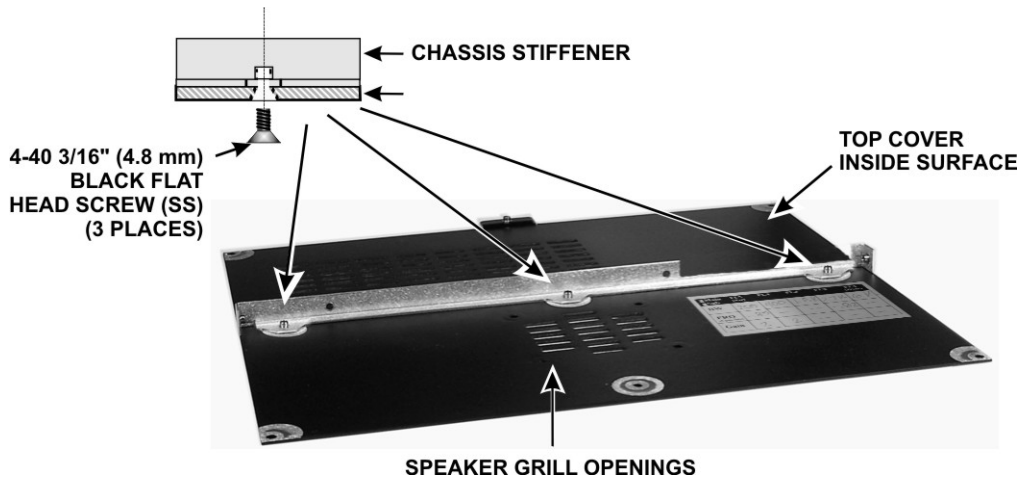

Figure 76. Attaching Chassis Stiffener to Top Cover.
- Mount the chassis stiffening bracket on the underside of the cover as shown in Figure 76. Do not use washers.